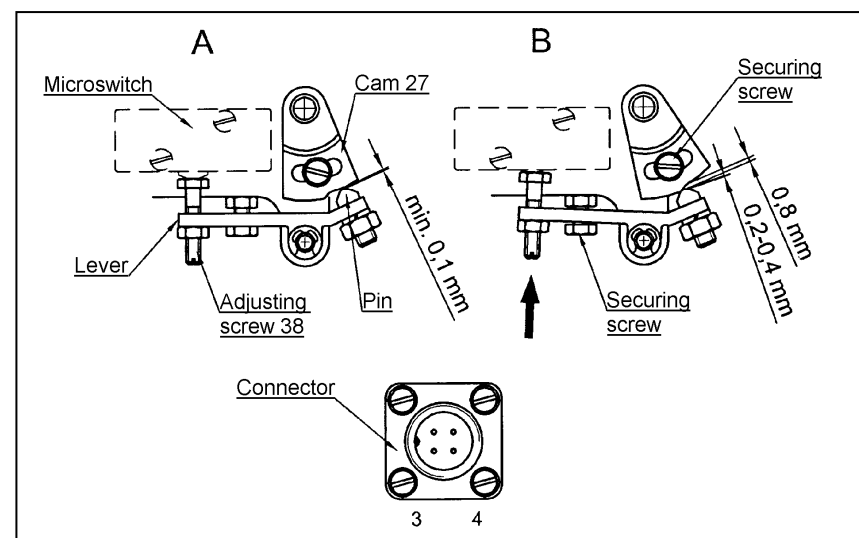

FIGURE 12-17
- (2) Adjust the setting screw 38 on the lever contacting the microswitch such way, that the microswitch switches on when the pin is 0,8 mm (.0315 inch) above the cam base 27 (figure 12-17). This adjustment ensures correct microswitch switching at right pin position.
If this clearance is less, adjust it by adjusting element – figure 12-17 – and this screw is then locked by tightening the nut.
- (4) Adjust when the electric circuit is energized based on the beta-ring position using following procedure:
- (b) Loosen (not remove) the cam securing screw and adjust the cam 27 to switch-on point of the beta lamp in the cockpit. Retighten the securing screw after the cam is adjusted. Refer to figure 12-17.
NOTE: It is possible to check when the circuit is energized, using power supply (max. 12V) and a suitable lamp connected to connector pins 3 and 4 (figure 12-17).